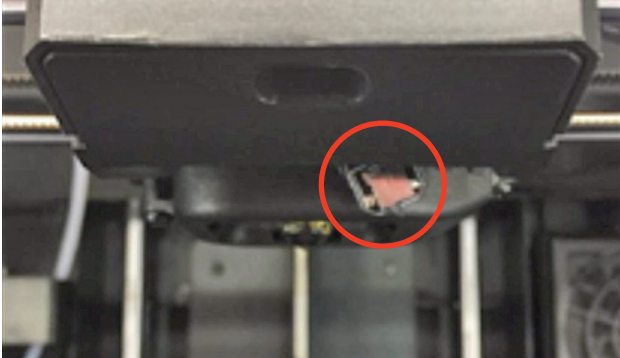

Figure 13. Exposed leveling arm in stowed position.
- v. Ensure the leveling arm is NOT exposed like it is shown in Figure 13 below.